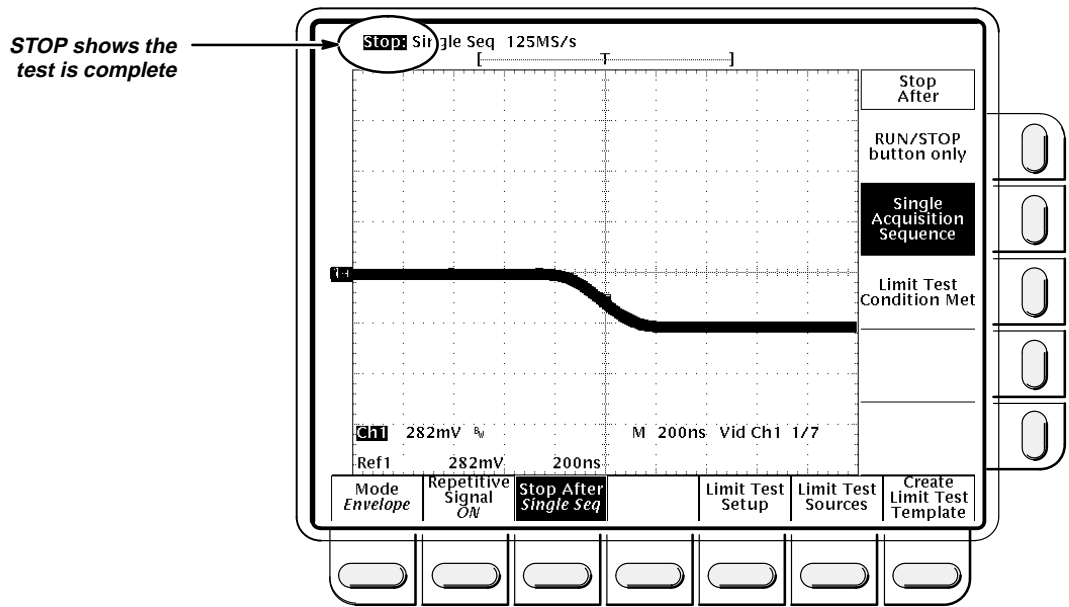

Figure 1-29: Jitter Test When Completed
- v. CONFIRM that the oscilloscope successfully makes 100 acquisitions. If not successful, the oscilloscope bell will ring. When the word **Run** in the top left corner of the display changes to **STOP**, the test is complete (See Figure 1-29).